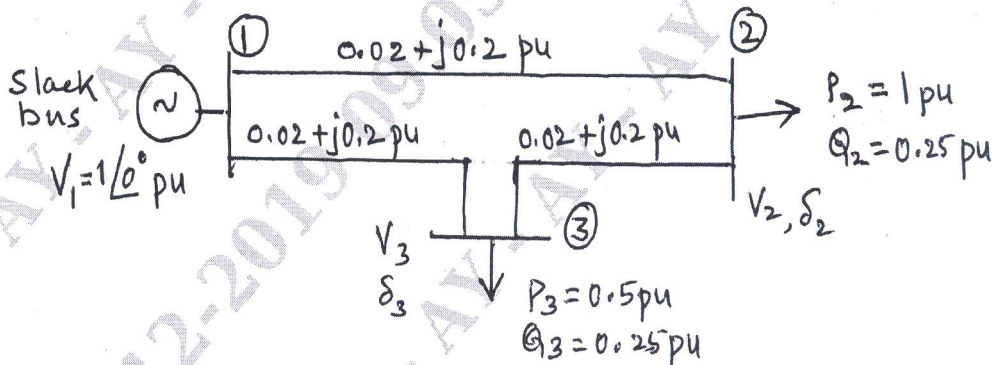

Fig.Q2(c)
- c. For the system shown in Fig.Q2(c) obtain solution of voltage and angles of bus 2 and 3 at the end of one iteration. Using Gauss-Seidel load flow method. Use flat start. Line data is in impedance form.